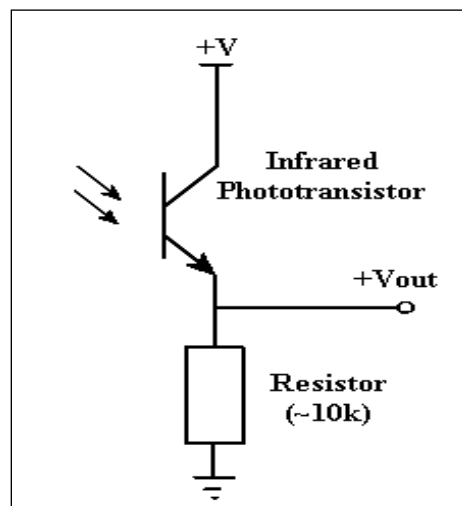

Figure A1b / Rajah A1b
- b) Based on Figure A1b, explain the operation of the phototransistor.